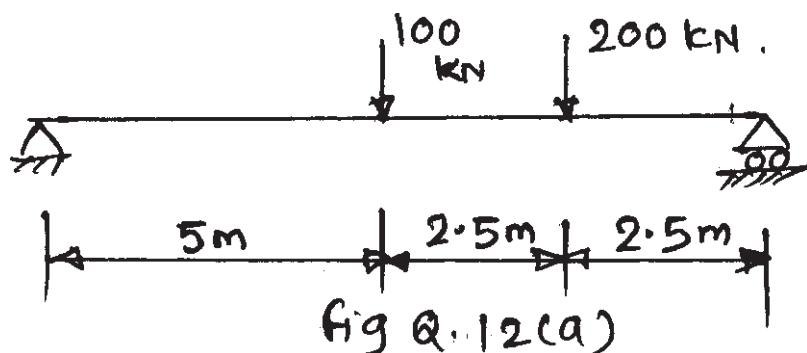

fig Q. 12(a)
- Q12(a)** The beam is loaded and supported as shown in fig. Q.12 (a). Determine the deflection under the loads. Take $EI = 2.4 \times 10^5 \text{ kNm}^2$. Use finite difference method and use five nodes. [6]
- b) Determine the approximate values of bending moment, shear force, and axial force in the plane frame loaded as shown in fig. Q.12 (b) using cantilever method. The areas of cross-section of an interior column is 1.25 the area of outer column. [12]